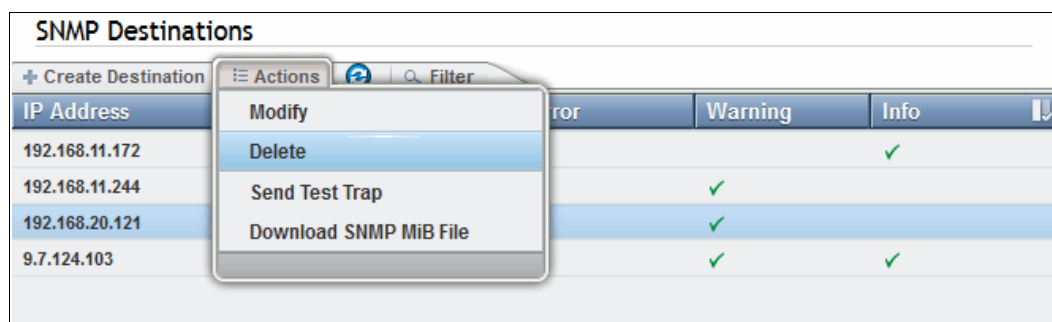

Figure 4-28 SNMP Traps actions
4. From the SNMP Traps window, select **Actions** to modify or delete an existing destination server, send a test trap, or download the SNMP MIB file. Figure 4-28 shows these options.
To download the configuration MIB file, select **SNMP Traps**, as shown in Figure 4-28 on page 220. Then, with the IP address highlighted, select **Actions** → **Download SNMP MiB File**.